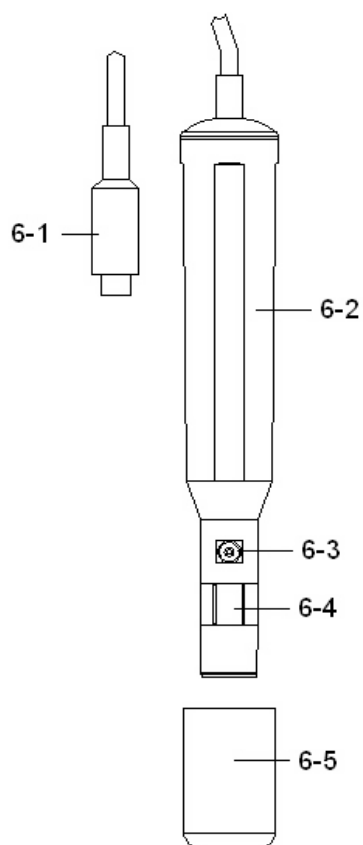

Fig. 4
- 1) Prepare the Oxygen Probe (optional, DOPB-11), install the " Probe Plug " (6-1, Fig. 4) into the " DO Socket " (3-15, Fig. 1).
- 1) Install the " Probe Plug " (6-1, Fig. 4) into the " DO Socket " (3-15, Fig. 1).
5)When not use the probe, should insert the " Probe head " into the " Probe protection cover " (6-5, Fig. 4)